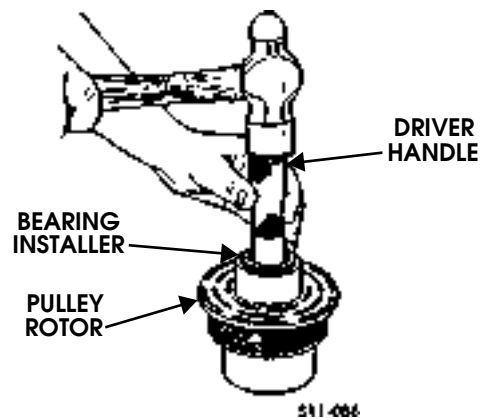

Figure 11-34: Bearing Installer
- Align the new bearing squarely with the hub bore, and using puller and bearing installer with driver handle, drive the bearing pulley into the hub. The installer will apply force to the outer race of the bearing if used as shown (Figure 11-34).